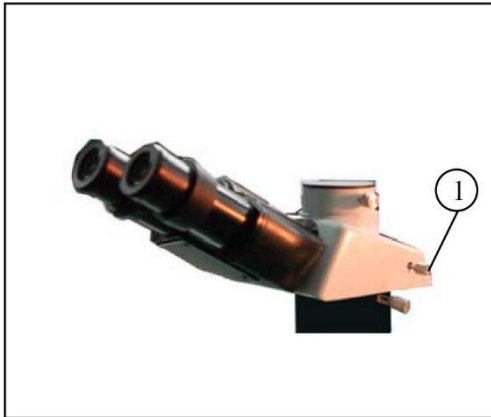

Figure 30
5.1.1. Selecting the light path (Figure 30)